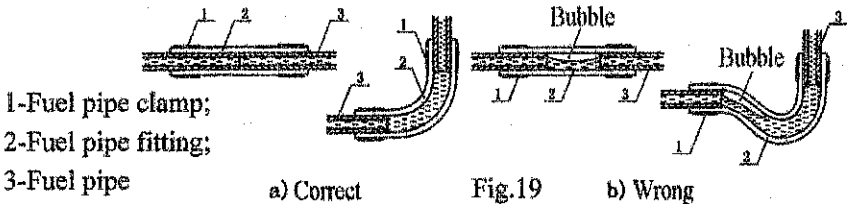

Fig.19
4.4.5.4 The fuel pipe fittings supplied with the heater shall be used for connections between fuel pipe and fuel pump, fuel pipe and heater, fuel pipe and sucking pipe of fuel tank and fuel pipe and reducing T. The fuel pipe shall ties with fuel pipe clamps. Bubbles shall be eliminated from the connecting places (Fig. 19).